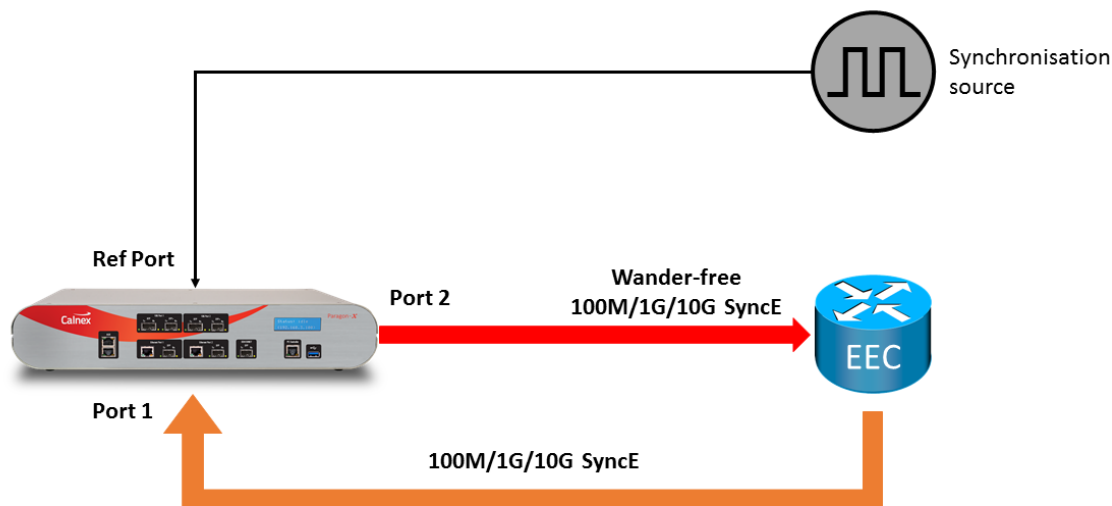
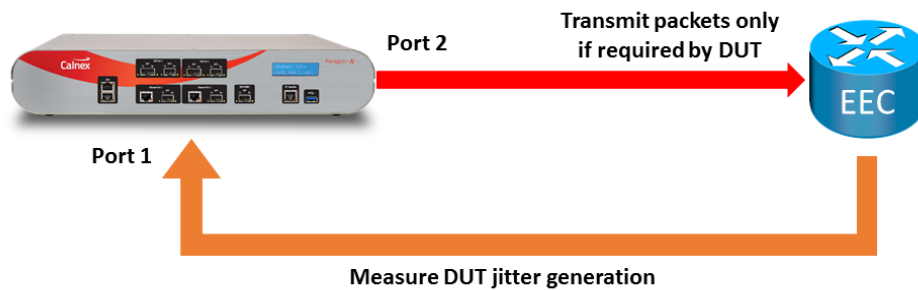

Figure 6: Wander generation test set-up
Figure 7: Jitter Generation Test Set-Up
- Connect the EEC and Paragon-X as shown in Figure 6.
- Connect the EEC and Paragon-X as shown in Figure 7.
| EEC Option 1 | <ul style="list-style-type: none"> • MTIE Wander Table 7/Figure 5 • TDEV Wander Table 8/Figure 6 • Sinusoidal Wander Table 9/Figure 7 | The EEC should <ul style="list-style-type: none"> • Maintain the clock within performance limits; • Not cause any alarms; • Not cause the clock to switch reference; • Not cause the clock to go into holdover. | Paragon-X can measure the wander and/or ESMC QL of the EEC output to indicate whether the EEC is switching references or going into holdover. |